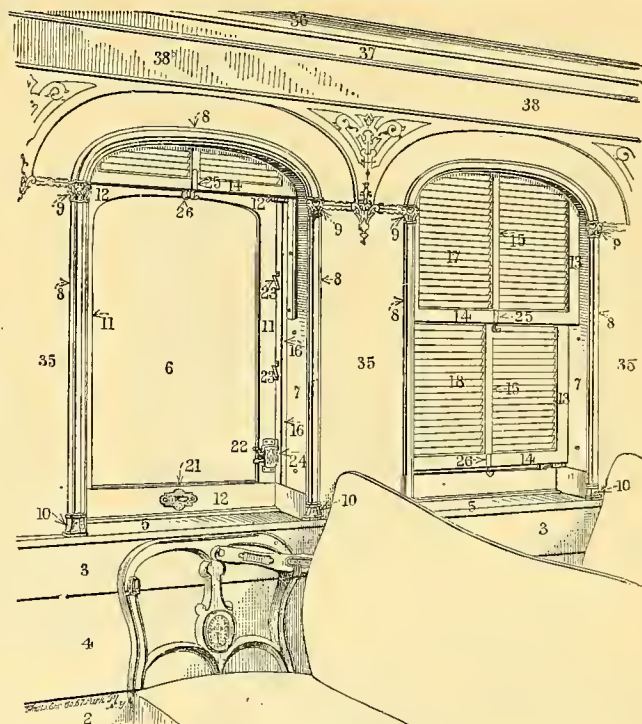
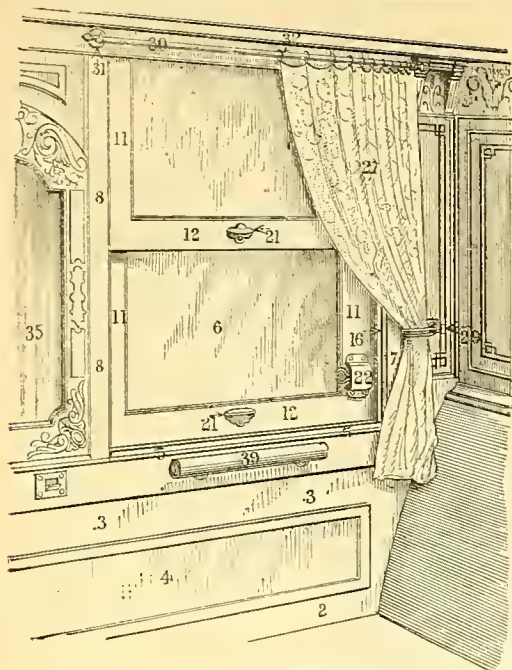
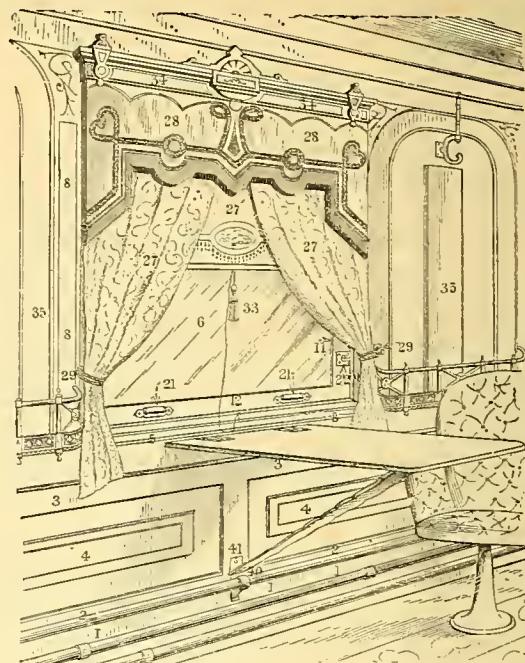

Fig. 692.
Fig. 694. PERSPECTIVE VIEW OF SLEEPING-CAR WINDOW
Fig. 695. PERSPECTIVE VIEW OF PARLOR-CAR WINDOW.
*NOTE.*—The curved window-mouldings, 8, Fig. 692, and some of the details of Decoration, are not according to the most recent practice. See Fig. 679 and several cars in CAR-BODIES, PASSENGER, for more recent designs. The same is true of the Inside Window-panel, 35, Fig. 694, on the following page, and the Lambrequin, 28; Window-cornice, 34; and Window-shade, 27, in Fig. 695.
### NAMES OF PARTS OF CAR WINDOWS; Fig. 692.